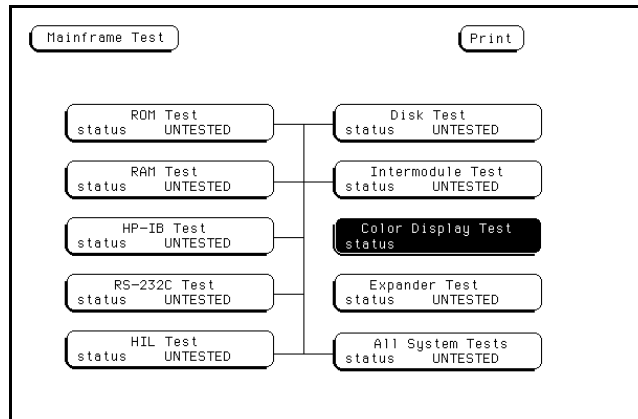
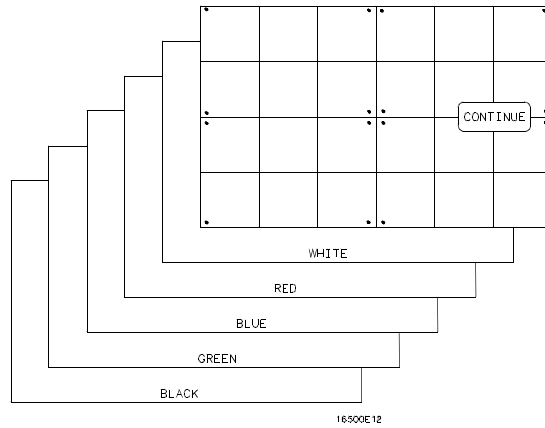

Figure 4-6. Mainframe Test Menu
Figure 4-7. Selecting the Test Patterns
6. The Mainframe Test menu is now displayed. See figure 4-6. Select the **Color Display Test** field to display the white cross hatch test pattern, which is the first test pattern in the system. See figure 4-7.
7. With every touch of the **Continue** field, the next test pattern will be displayed. See figure 4-7.